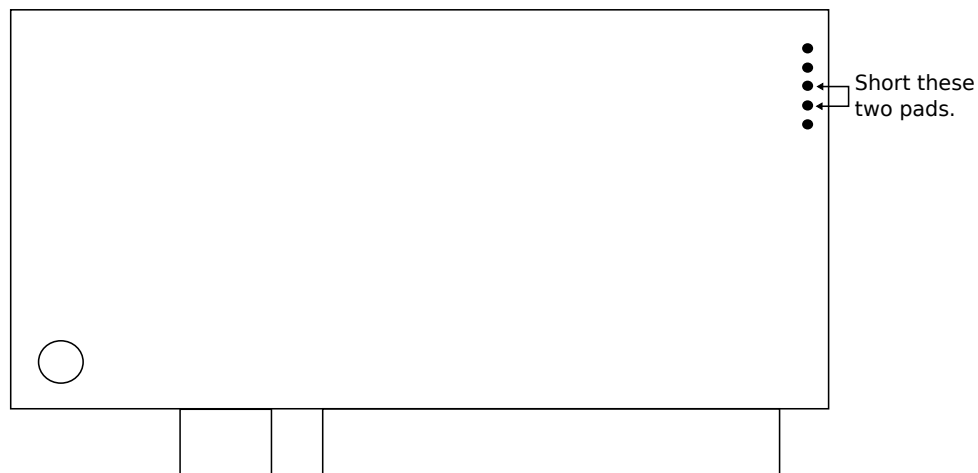

Figure 2: Reset to factory default settings
2. Short CLK and DIO pads of programming pads on bottom of pcb (see figure 2).